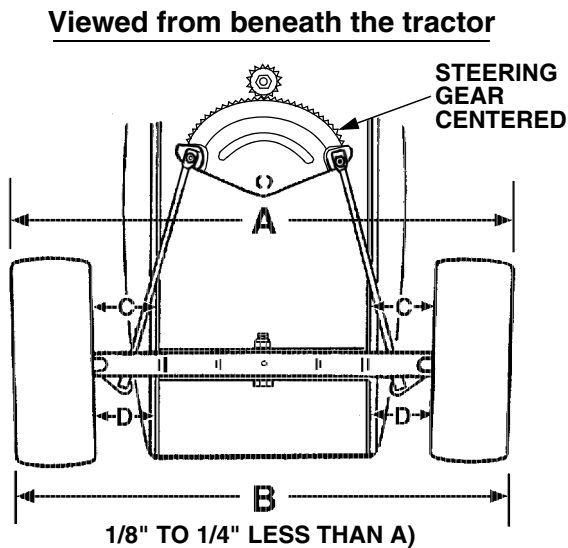

Figure 14
The front wheels should toe-in approximately 1/8 to 1/4 inch, as measured across dimensions A and B shown in Figure 14.
1. Check the steering gear to ensure it is in the centered position (See Figure 14).
3. Rotate the wheels to position the marks at the front *horizontal* diameter of the wheels, then measure the distance between the marks and the bottom edges of the tractor frame channels (See measurement D in Figure 14). These two measurements should be equal.
4. While holding the steering gear to prevent the steering knuckles from moving, rotate the marks to the rear *horizontal* diameter. Measure the distance between the marks and the frame (See measurement C in Figure 14). Measurement D should be approximately 1/16 to 1/8 inch less than measurement C on each side of the tractor.